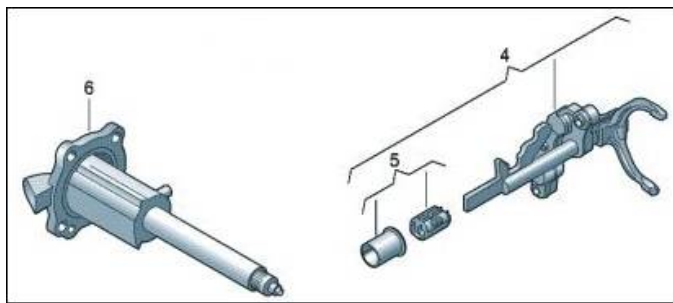

Figure 1. Shift fork and gear shift unit
4. Replace the 5th - 6th gear shift fork and ball sleeve (*Item 4 and 5, Figure 1*) and the gear shift unit (*Item 6 Figure 1*) per instructions in *ELSA: Transmission*>> *Manual Transmission Internal Components*>> *34 Controls, Housing*>> *Disassembly and Assembly*>> *Transmission, Assembly Sequence* **AND** *35 Gears, Shafts*>> *Disassembly and Assembly*>> *Shift Fork Group, input shaft*.